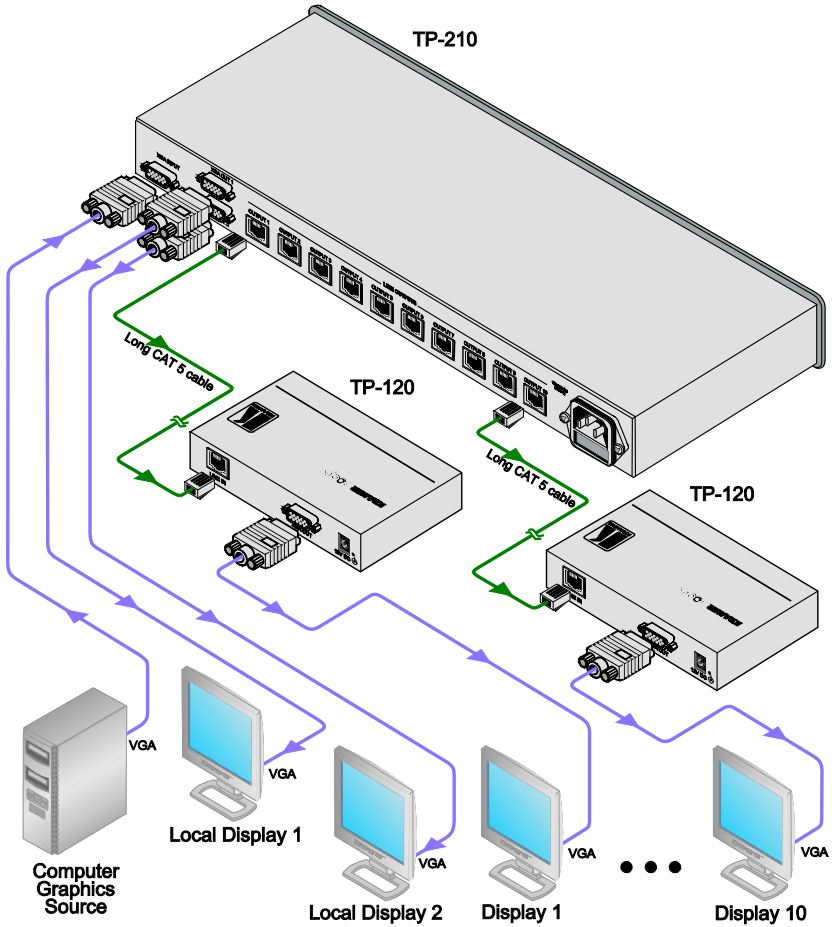

Figure 3: Connecting the TP-210 XGA Line Transmitter/DA
To connect the **TP-210**, as Figure 3 illustrates, do the following:
5. Connect the power cord3 (not shown in Figure 3).